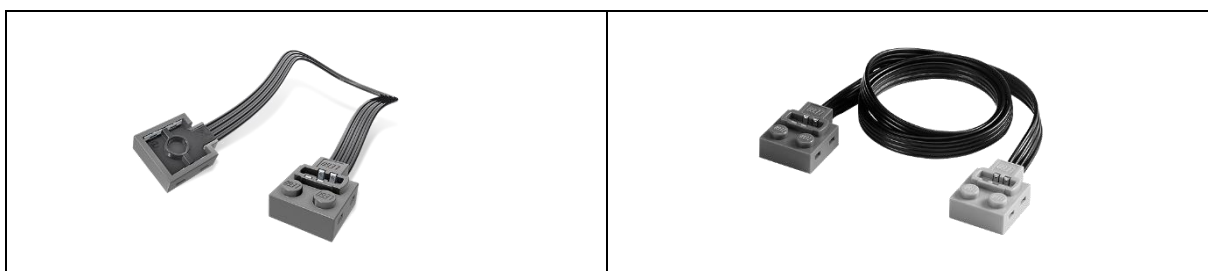

Figure 1.3
5.6 Allowable LEGO® extension wires are as in Figure 1.3.